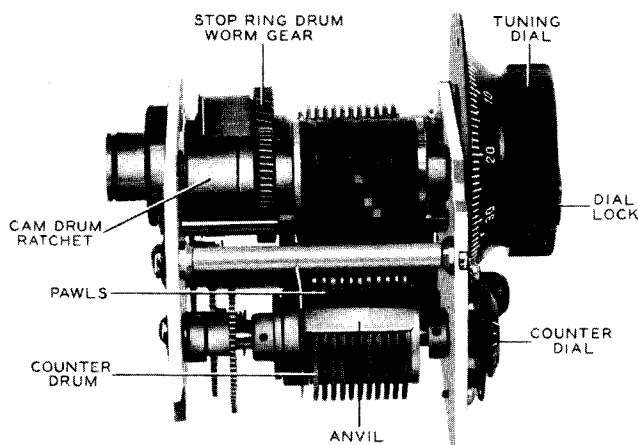

Figure 5-14. Autotune Multiturn Unit—Left Side
(3) Place the crank (which is included in the spare parts) on the right end of the Autotune line shaft, orient the crank hub in the slot and fasten it with a 4-40 x 1/2" screw.
(4) By means of the crank turn the line shaft counterclockwise until all the cam drums are being driven. Continue to turn the crank counterclockwise until the stop-ring drum on the Multi-turn unit has reached home stop and has ceased to turn.
(5) After the stop-ring drum on the Multi-turn unit has ceased to turn and only the cam drums are turning, pull the fork of the anvil (*figure 5-14,*) in a counterclockwise direction away from under the tails of the pawls so that they are free to fall to the surface of the counter drum. If at any time the line shaft should be turned clockwise, it will first be necessary to turn the line shaft again in the counterclockwise direction far enough to reach home stop before pulling the anvil out from under the tails of the pawls; otherwise, as soon as the line shaft is turned counterclockwise, the anvil will be rotated up under the tails of the pawls.
(6) Continue to rotate the crank slowly until the number 5 pawl on one of the units, just drops into its cam slot.